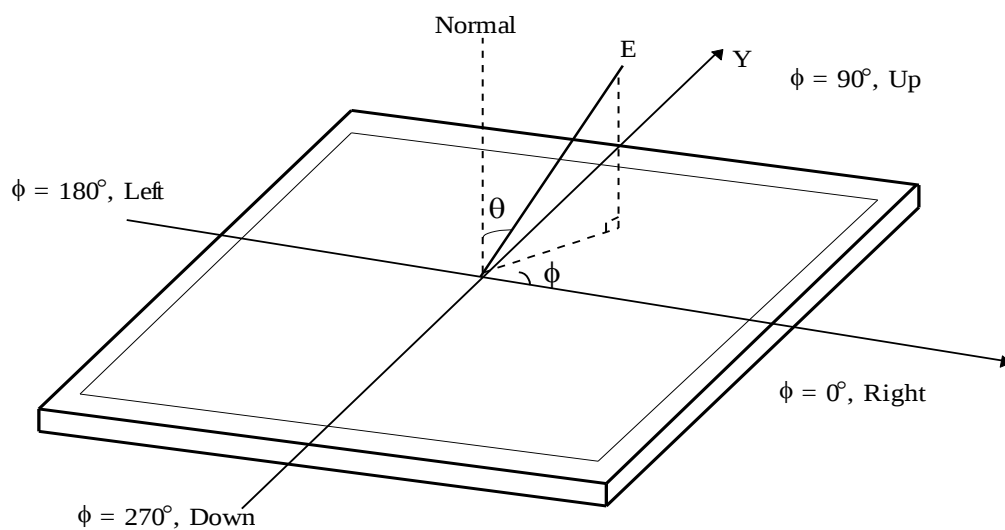

FIG. 5 Viewing Angle
6. Viewing Angle Color Shift (VACS) is defined as follows after measuring color coordinates at each angle.; $VACS = \sqrt{du^2 + dv^2}$ (@ CIE (u' , v') color space) For more information, see the FIG. 5.